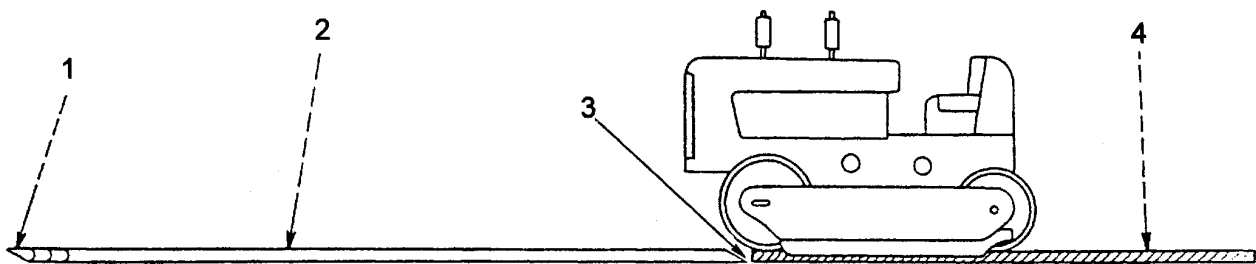

Fig. 9.6. Removing the Track Chain
4. Place a plank flush against the rear of the track when the track is flat on the ground as shown in Fig. 9.6. The plank should be approximately the same thickness as the track and long enough so that the entire dozer can rest on the plank. If a new track is to be installed, remove the old chain as described above, and place the new chain on the ground ahead of the dozer, with the open link end flush against the front of the old chain.